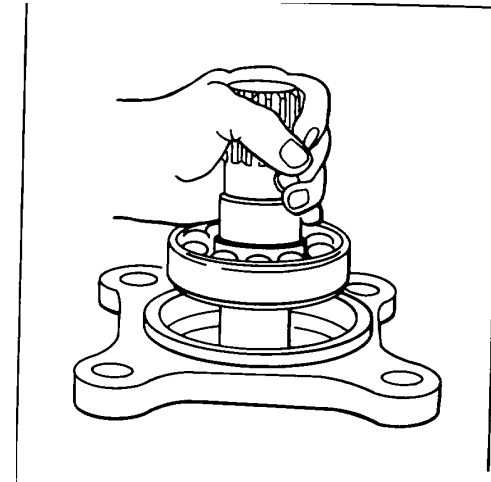

Figure 206.
14 Remove motor shaft (1) and assembled parts ((38), (58), (49) and inner race of (44)), by pulling straight up from mounting flange as shown in Fig 206.
15. Inspect ball bearing (38) for galling, roughness or cage cracks. If damaged, remove retaining rings (58) using truarc pliers and press ball bearing (38) from shaft (1).
16. Inspect inner race of roller bearing (44) for galling or roughness. If no damage is apparent and no damage was observed when the outer race was inspected, do not remove inner race from shaft If damage was observed on either the inner or outer race, both must be replaced Remove retaining ring (49) and slide inner race of bearing (44) from shaft (1).